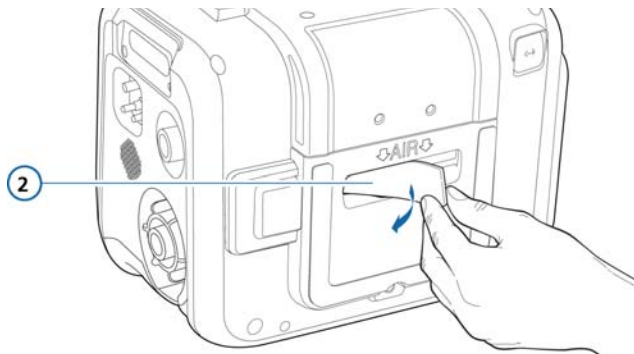

Figure 10-2. Removing the air intake filter (1)
7. Install a new air intake dust filter (Figure 10-2) or wash the existing filter in a mild soap solution, rinse, dry, and reinstall.